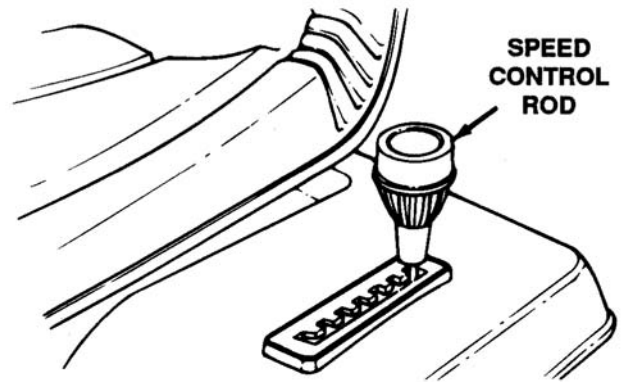

Figure 7-35. Speed Control Lever
**Shift Lever.** The shift lever is located in the center of the console and has four positions, HIGH, LOW, NEUTRAL and REVERSE. See Figure 7-35. The clutch-brake pedal must be depressed and the lawn tractor must not be moving when shifting gears. Do not force the shift lever. Release the clutch-brake pedal slightly to line up the shifting collar in the transmission. Then try to shift gears.